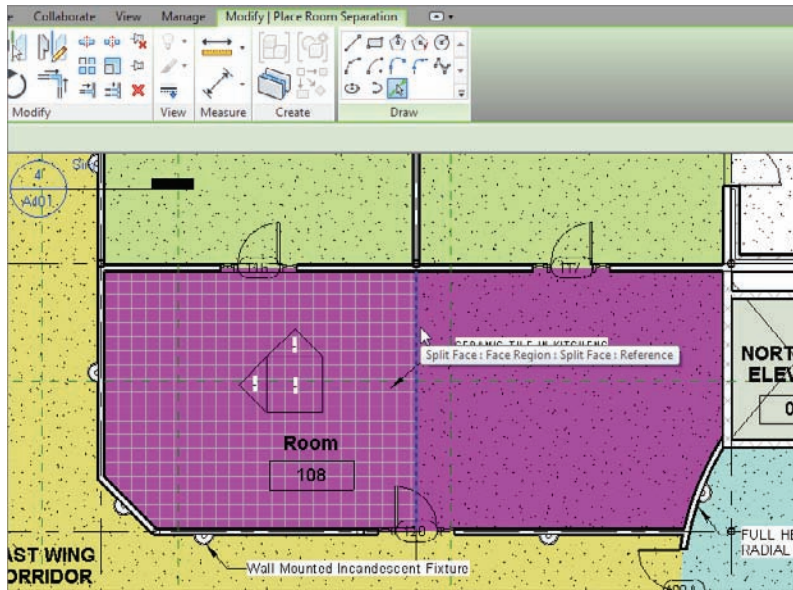

FIGURE 15.23 Adding the room separation line
6. Pick the edge of the flooring, as shown in Figure 15.23.